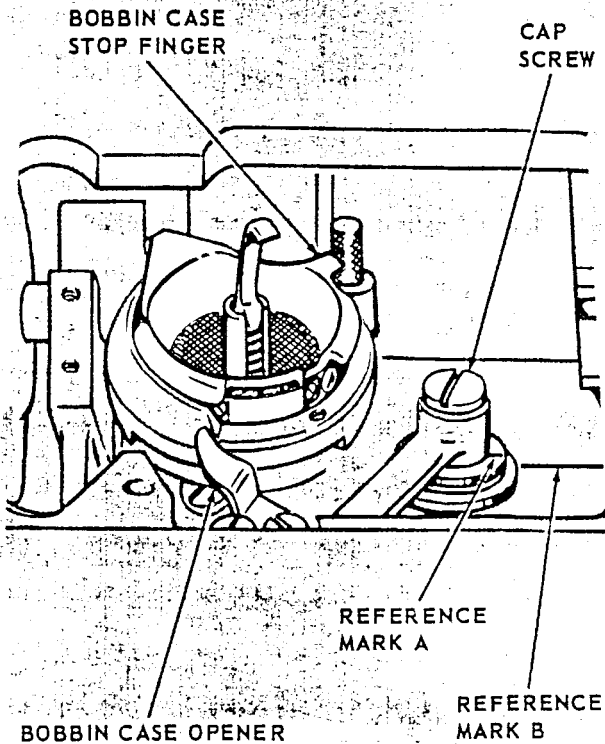
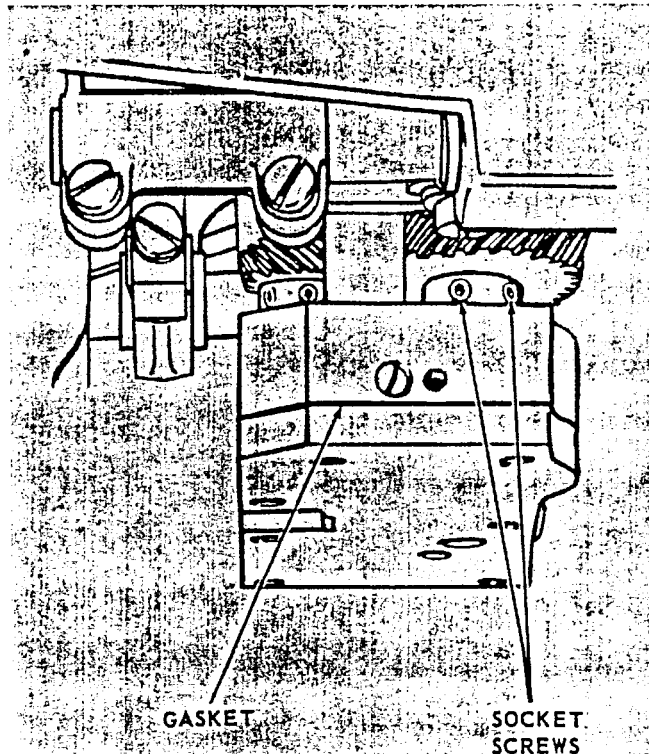

Fig. 33. Bobbin Case Opener Adjustment
Fig. 34. Bobbin Case Opener Timing
**CAUTION:** The hook is equipped with a screw in the hub for adjusting the vertical position of the hook relative to the throat plate seat. This position is set with a gauge at the factory. WHEN REPLACING A HOOK, CARE MUST BE TAKEN TO SEE THAT THE BOBBIN CASE STOP FINGER, SHOWN IN FIG. 33, FITS CORRECTLY IN THE THROAT PLATE. For correct adjustment, see instructions concerning hook height adjustment on page 12.
The bobbin case opener, shown in Fig. 33, should be set so that it touches the bobbin case as lightly as possible and turns the bobbin case enough to make a sufficient opening for the free passage of thread between throat plate and bobbin case.
Turn machine pulley over toward you until lower timing mark on needle bar is even with edge of needle bar frame on upward stroke of needle. When needle bar is in this position, reference mark A should line up with reference mark B on hook saddle, as indicated in Fig. 33. If opener shaft is out of time, tip machine back and loosen socket screws shown in Fig. 34. Return machine to upright position and turn opener driving shaft with screw driver in cap screw shown in Fig. 33. Tighten socket screws in opener driving gear hub.